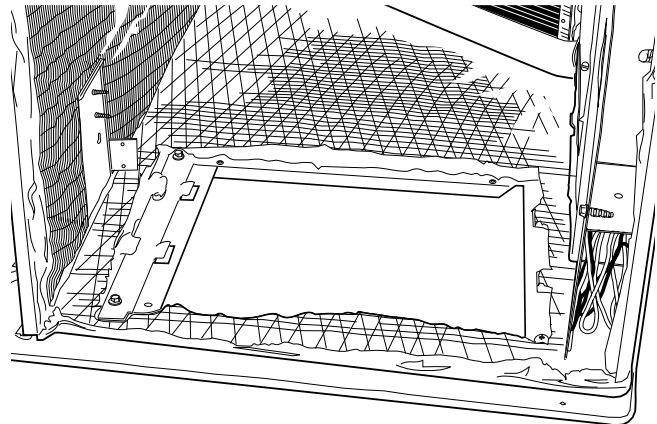

Fig. 22 — Insulation and Cover Removed from Vertical Discharge Opening
9. Using a straight edge and sharp knife, cut the insulation around the perimeter of the cover. Remove the screws securing the cover to the basepan and slide out the cover (Fig. 22). Discard the cover. Install filler bracket removed in Step 7.
9. Using a straight edge and sharp knife, cut the insulation around the perimeter of the cover. Remove the screws securing the cover to the basepan and slide out the cover (Fig. 22). Discard the cover. Install filler bracket removed in Step 6.